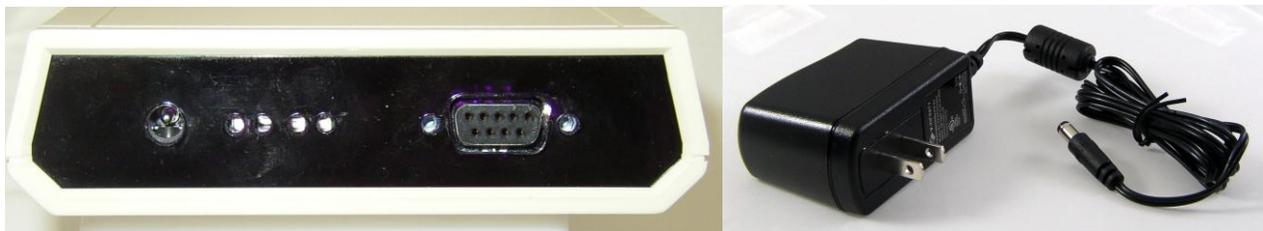

Figure 2
- Connect the receiver, Figure 2, to *Com1* on the computer using the provided serial cable. The receiver power supply plugs into one of the *Battery Backup +* sockets of the UPS and into the receiver.